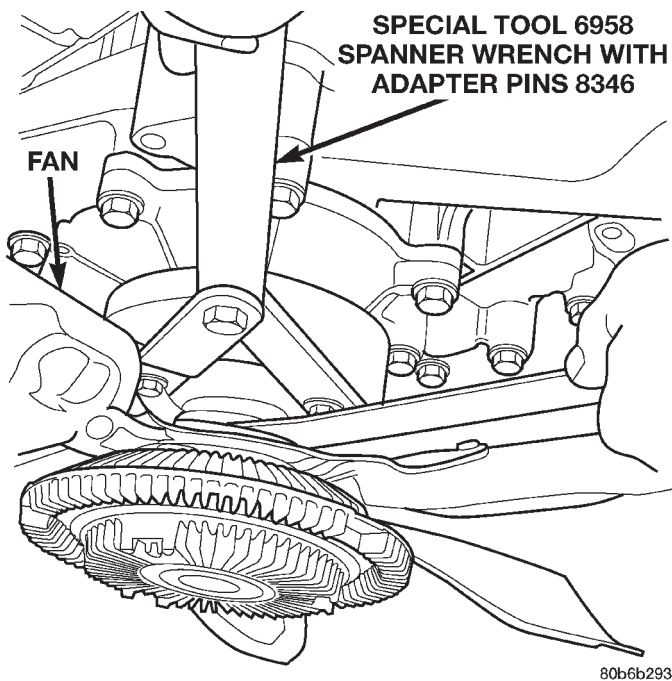

Fig. 31 Viscous Fan and Fan Drive 4.7L
(3) The thermal viscous fan drive is attached (threaded) to the water pump hub shaft. Remove fan/viscous fan drive assembly from water pump by turning mounting nut counterclockwise as viewed from front. Threads on viscous fan drive are **RIGHT HAND**. Using special tool spanner wrench 6958 with adapter pins 8346 and a suitable fan wrench loosen the fan drive (Fig. 31). Do not attempt to remove fan/viscous fan drive assembly from vehicle at this time.